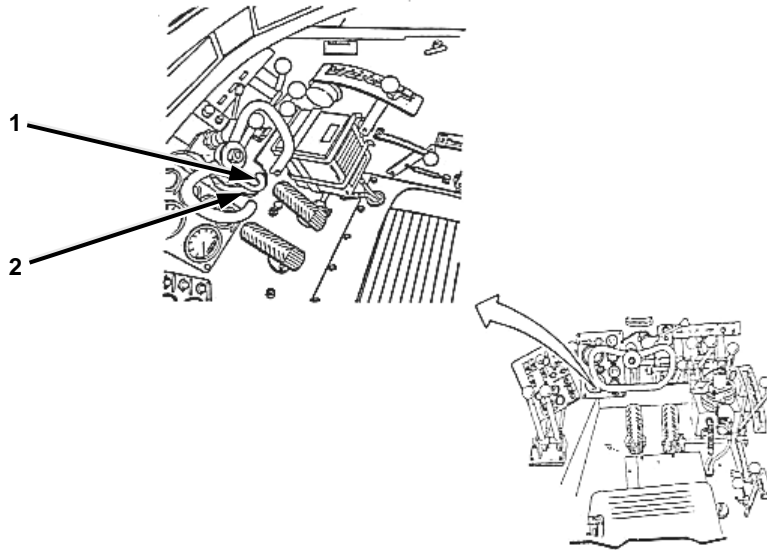

Figure 2-13. MCU Power
Step 3 below applies to Figure 2-13.
3. Continue routing the MCU Power Lead (12491611-2) (2) forward, behind the instrument panels and out the lower front hole (1) of the driver's compartment.